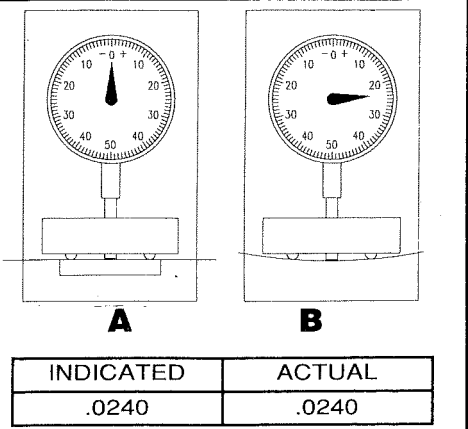

FIG. 1 IDEAL CONDITONS
In addition to these requirements, THE SHOT PEENER has established additional requirements. These include specifications for allowable deterioration to the four (4) support balls and the tip of the indicator stem. Figures 1 through 4 depict the measurement error attributable to these characteristics.
Figure 1 illustrates a new gage assumed to be in ideal condition. Figure 1A shows establishment of zero reference (datum line). Figure 1B shows resulting extension of indicator tip due to measurement of an Almen strip with 0.024" deflection.